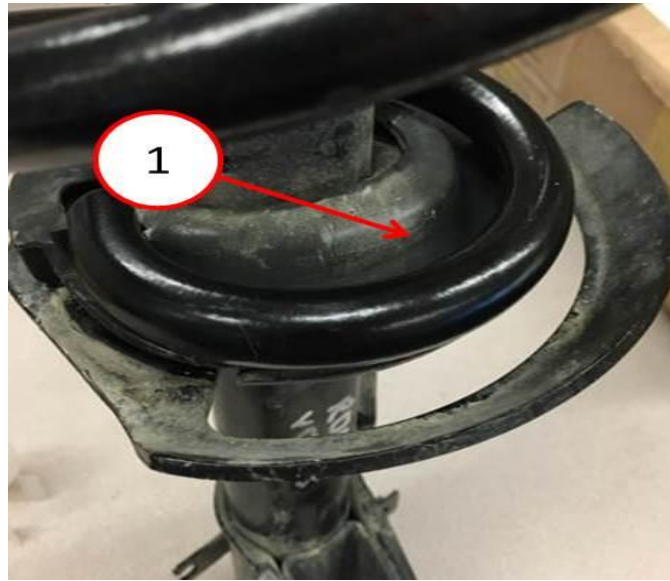

Fig. 1 Incorrect Assembly
3. Inspect the front struts to see if the coil spring is rubbing on the strut tube. Refer to (Fig. 1) and (Fig. 2) for examples of improper spring/strut assembly.